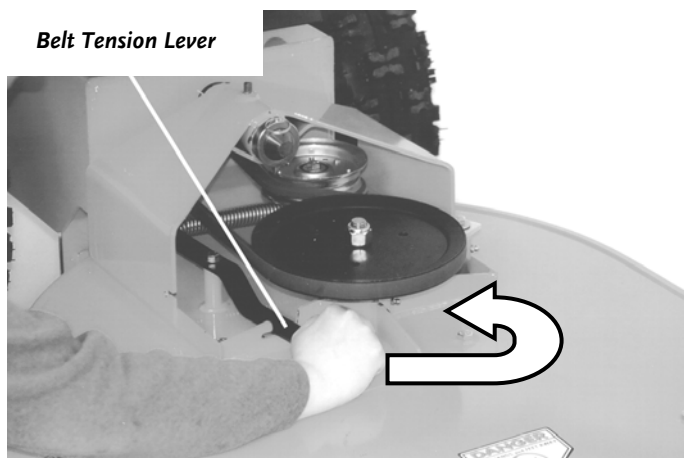

Figure 3
2. Release the Belt Tension Lever (*Figure 3*).